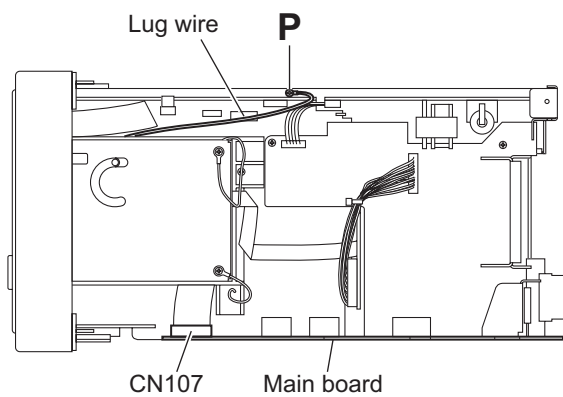

Fig.12
3.1.9 Removing the main board (See Figs.12 and 13)
- From the forward side of the main board, disconnect the card wire from the connector CN107. (See Fig.12.)
(See Fig.12.)